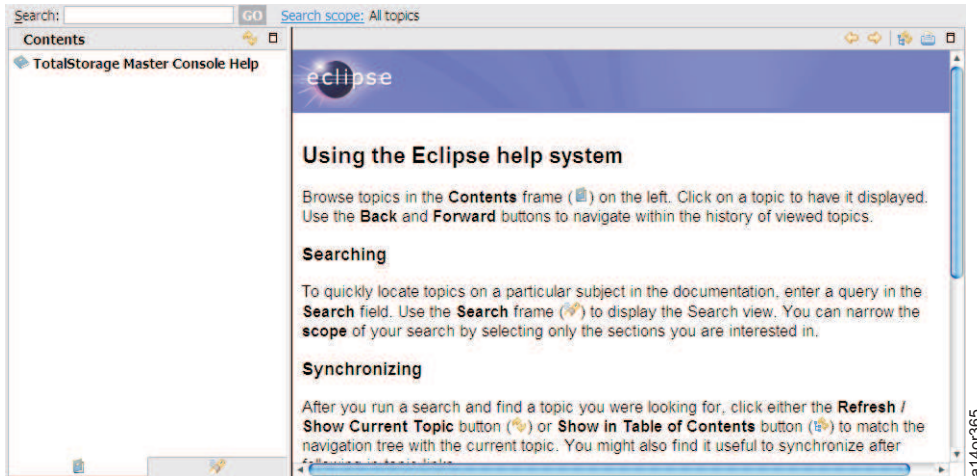

Figure 258. Launching InfoCenter Window. Though not shown here, your selection will appear below "TotalStorage Master Console Help."
2. From the Main Menu, select **Browser Functions > Launch InfoCenter**. A browser window appears, as seen in Figure 258 on page 220. This can take as long as 15 seconds to open.